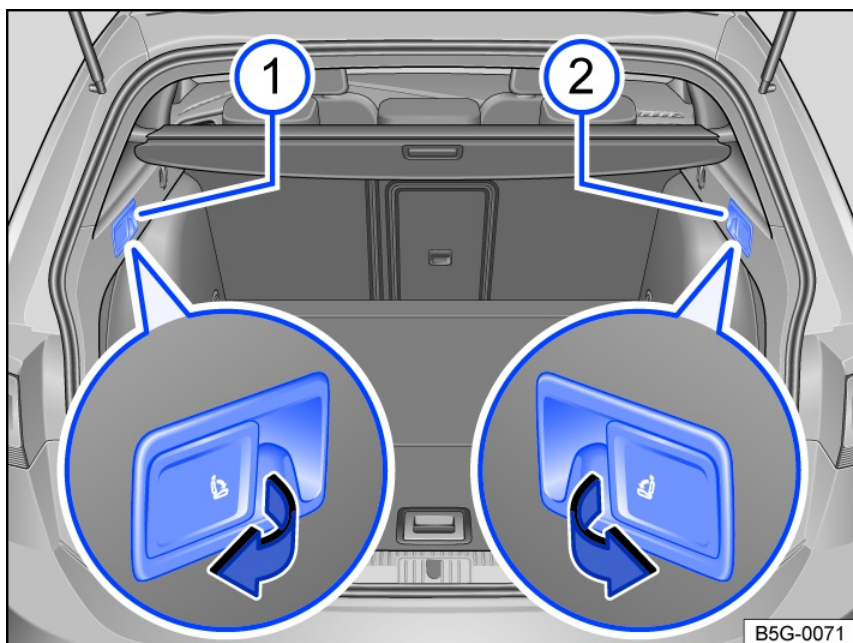

Fig. 83 In the luggage compartment: Remote unlocking lever for the left ① and right ② part of the rear seat backrest.
- Pull the remote unlocking lever fig. 83 for the portion of the rear seat backrest you want to fold forward and down.